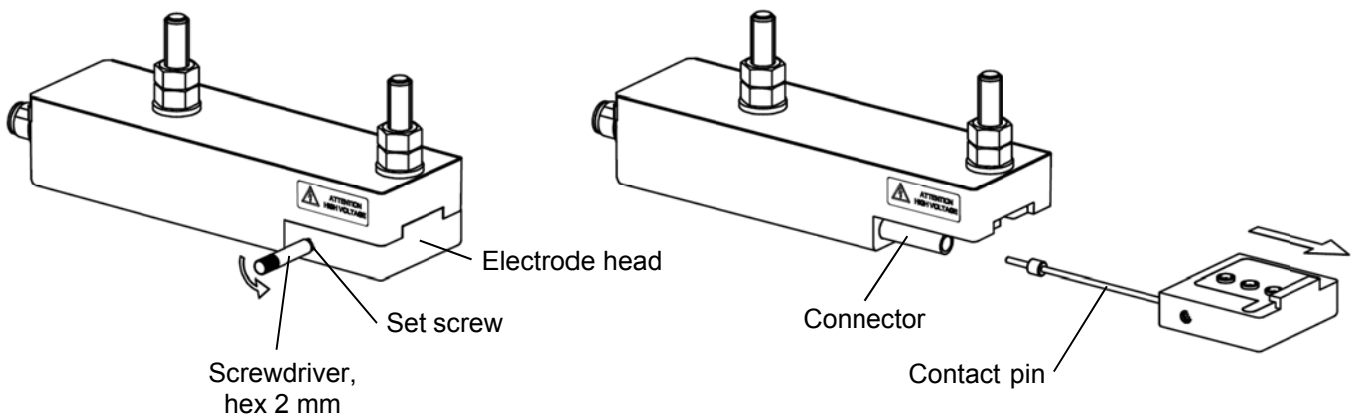

Figure 6, replacing the electrode head
- 2 Slide the electrode head off the *Perfomaster* (see figure 6).